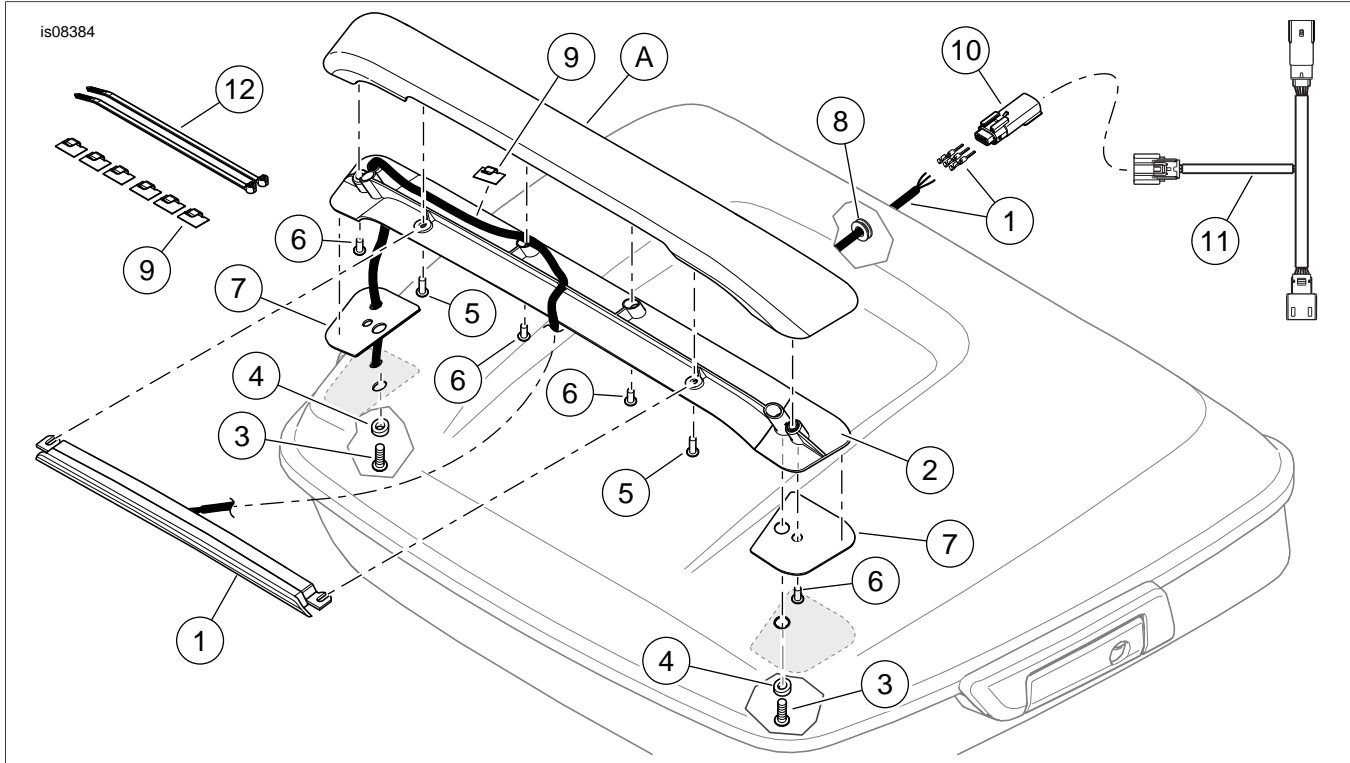

Figure 3. Service Parts, Tour-Pak Spoiler and Auxiliary Rear Light Kit
4. See Figure 3. Temporarily mount the spoiler base (2) to the Tour-Pak cover with the beveled washers (4) and larger screws (3). Allow washers to rotate into alignment on the underside of the lid. **DO NOT** fully tighten screws.
1. See Figure 3. Get the spoiler base, auxiliary light assembly (1) and an adhesive-backed wire clip (9) from the kit. Feed the light wiring through the base wiring hole on the left side.
- a. Assemble the base and light to the cover with two longer socket head cap screws (5) as shown. **DO NOT** fully tighten.
- b. Install the four shorter screws (6) in the remaining holes, but **DO NOT** fully tighten.
4. Get the gasket pair sheet (7) from the kit. Cut along the dashed line to separate the pair. **DO NOT** remove the protective tape from the adhesive backing now.
3. See Figure 3. Install a grommet (8) from the kit into the newly drilled wiring hole.
6. See Figure 3. Get the three-way Molex pin housing (10). See the service manual appendix. Insert the spoiler wires into the pin housing:
7. Get the spoiler auxiliary lighting wire harness (11).